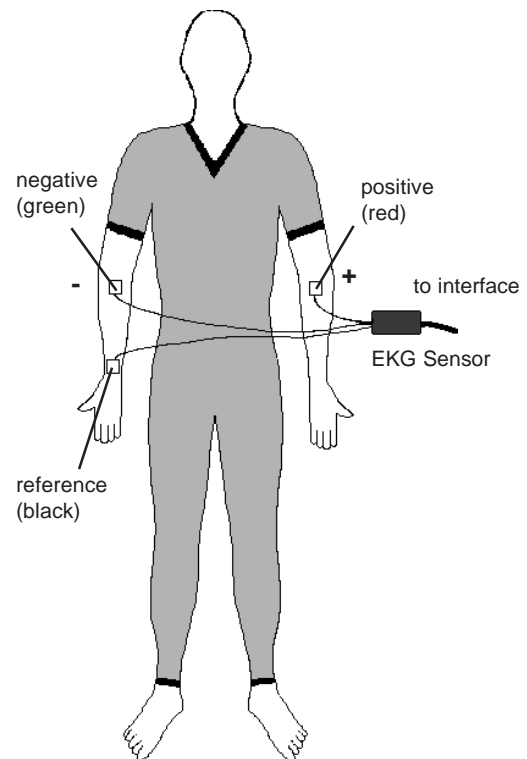

Figure 5
1. Peel three electrode patches from the backing paper. Firmly place the first electrode on the right wrist. Place a second electrode on the inside of the right elbow. Place the third electrode on the inside of the left elbow. (This is one of several possible arrangements for EKG electrodes on the body.) See Figure 5.